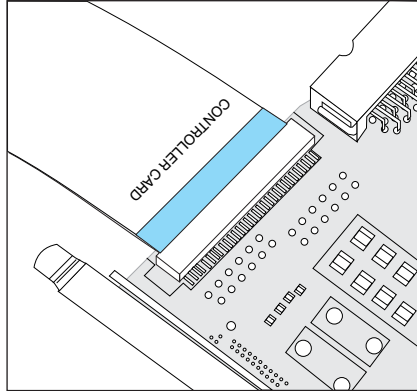
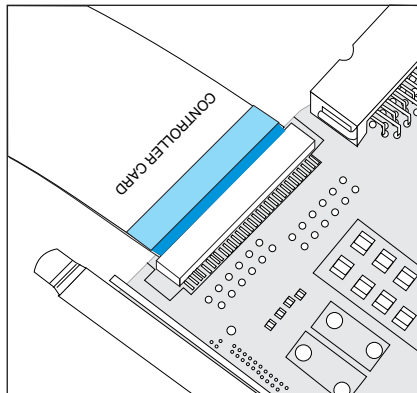
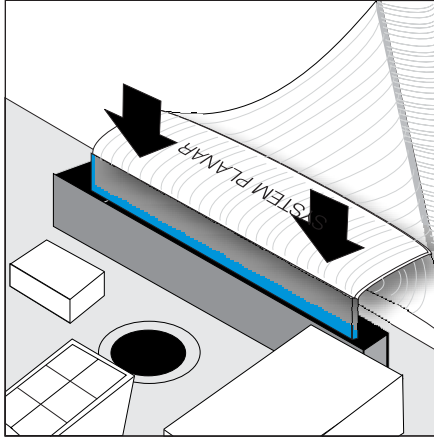

Figure 38. Service Controller card cable installed properly
Figure 39. Service Controller card cable not properly seated
Figure 41. Install the service controller card cable into the system board
- b. Before you reconnect the ribbon cable, ensure that its contacts are downward. *Carefully* install the cable to the rear of the service controller being sure to install the cable straight in with no rocking or twisting during installation. Be sure to verify that the dark blue line on the cable connector ends is not visible. This ensures that the cable is fully seated. See Figure 38 on page 168 and Figure 39 on page 168.
- c. To reinstall the cables, *carefully* install the one end of the ribbon cable (marked “System Planar”) to the system board being sure to install the cable straight in. See Figure 41 on page 171. Now route the flat cable and feed it through the opening where the service controller is to be installed and bring the other end of the cable (marked “Controller Card”) out of the front end of the SAN Volume Controller chassis. Next, *carefully* install this other end of the cable to the rear of the service controller being sure to install the cable straight in with no rocking or twisting during installation. Install the ATA cable to the rear of the service controller. Carefully install the service controller while ensuring the cables do not get damaged as they slide into the chassis. Be sure to verify that the blue line on the cable connector ends is not visible. This ensures that it is fully seated. See Figure 38 on page 168 and Figure 39 on page 168.